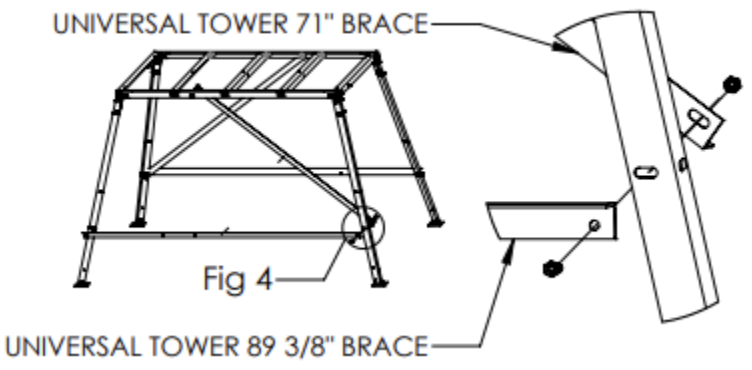

Fig 4
5. Attach 89 3/8" brace and the free end of 71" brace from step 4 to the leg using 1 - 3/8" x 1" bolt 1 - 3/8" nylon lock nut. Repeat on opposite side of base. Do not tighten at this time. (Fig 4)